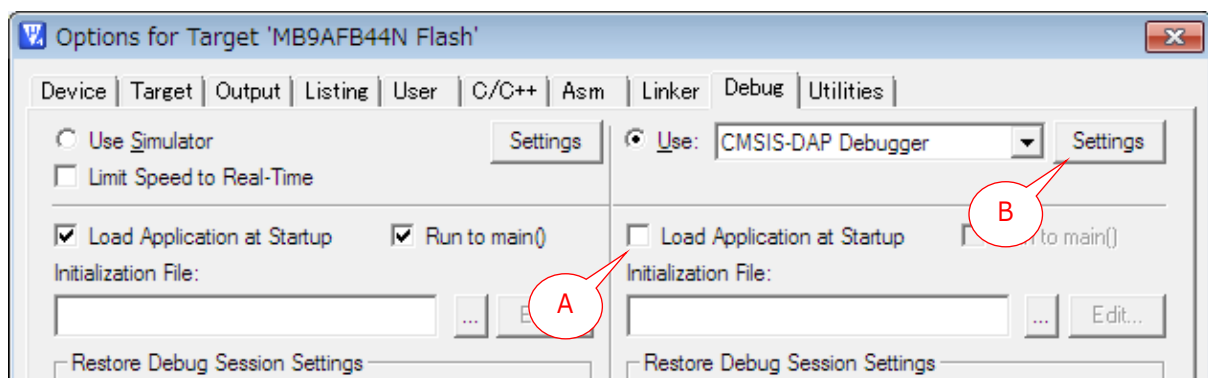

Figure 11
- 3) Press the **Settings** "B" button as shown in Figure 11 to open the [XXXX Target Driver Setup] window. Uncheck the <Reset after Connect> and <Verify Code Download> checkboxes so as **not to perform reset immediately after the start of a debugging session**. After unchecking the checkboxes, press the **OK** button.